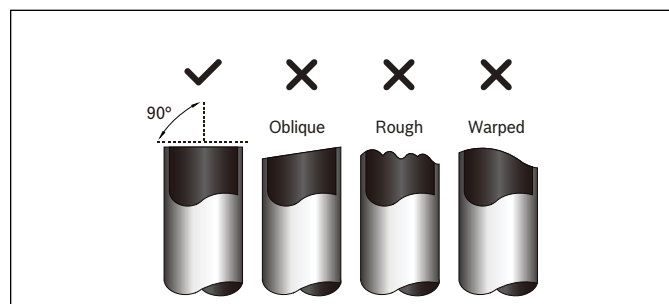

Figure 30
3. Make sure that the pipe is cut at a perfect 90° angle. Refer to Fig.30 for cut examples.